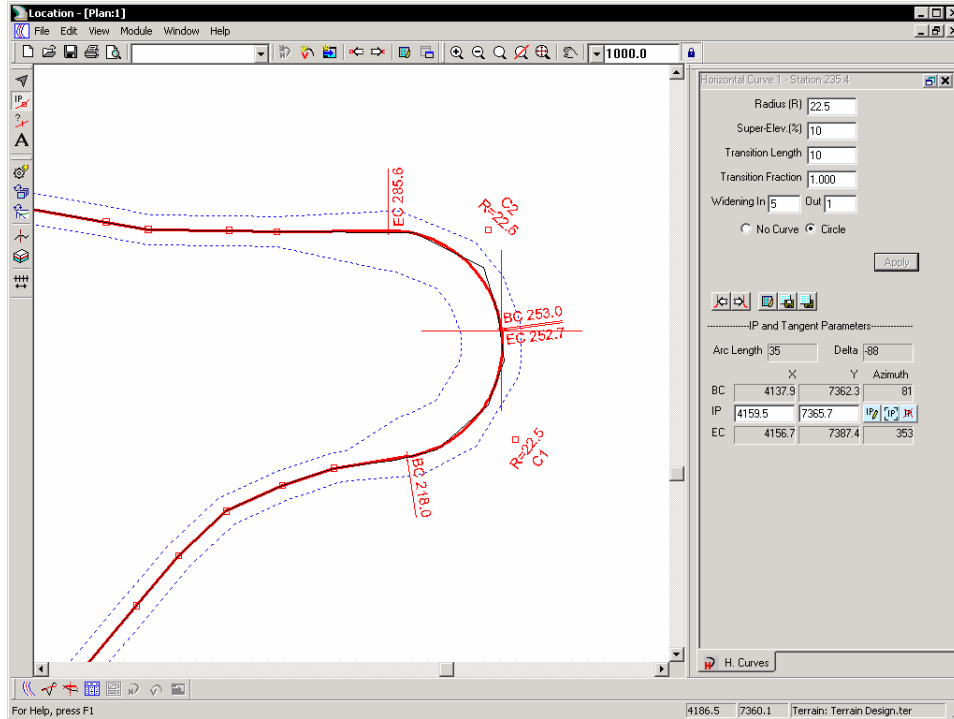

Figure 5.22: Finished Switchback After Moving IP's
16. Now use the mouse to move one of the two new IPs closer to the other until any remaining gap disappears (the computer beeps when you bump the curves together). Once completed the switchback should resemble Figure 5.22.